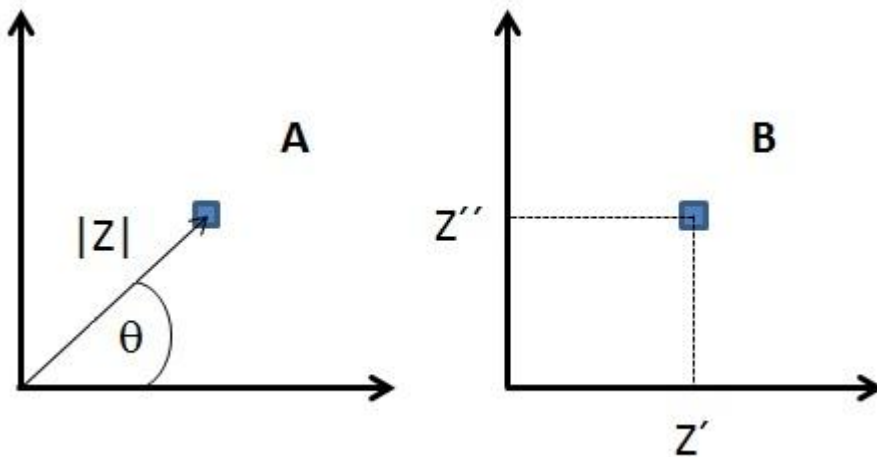

Fig. 5: Two ways of specify of the point in the plane. A – Polar coordinates; B – Cartesian coordinates.
Advantage of the Nyquist plot is in the simplicity of evaluation of the membrane resistance, because it is equal to the Z' value. However, frequencies are not shown in Nyquist plot. Nevertheless, transformation equations (2) and (3) between Bode and Nyquist plots result from Fig 5.